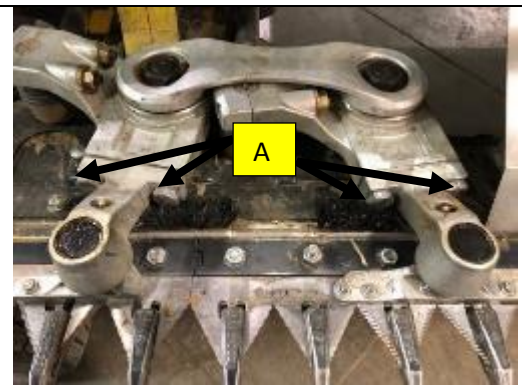

Figure 4
- Remove the 2 mounting bolts that connect each gooseneck to the bell cranks, (A) Figure 4.